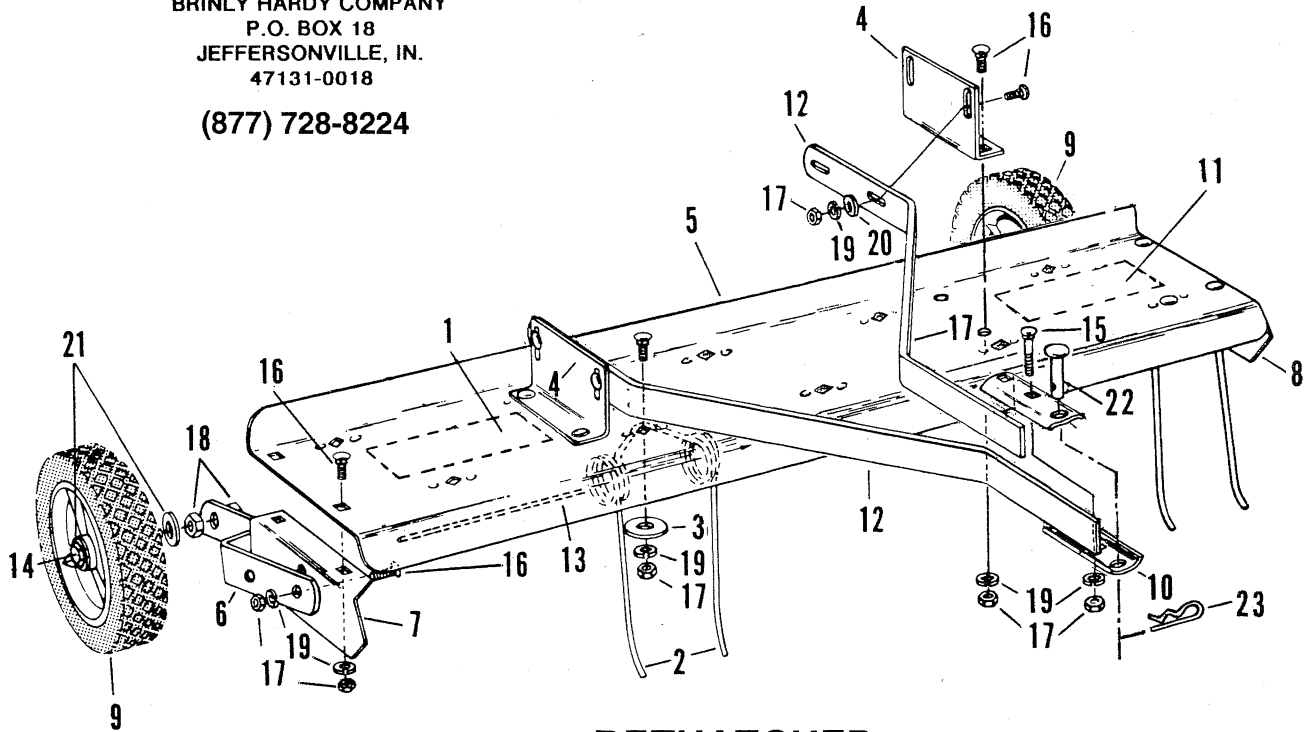

Fig. 5
B. Make adjustments to the pull bars (12) and the wheel mount brackets (6) as necessary, to place the tine "TIPS" about 1/2" above the flat surface when in the FREE position, and to touch the flat surface when manually deflected. Refer to illustration A and **FIG. 5.**
FIG. 5. - TINE ACTION - Grass should be less than 3" tall for proper tine action. When in use, all tines on the dethatcher should deflect back and "flip" the thach forward, as shown, in Fig. 5. If the tines seem to drag without flipping forward, the tine tray is too low and should be raised. If all the tines stay in the free position, the tray should be lowered. Make adjustments as necessary, up or down, by no more than 1/4" each time, until proper results are achieved.